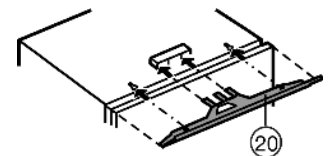

Fig. 12
- ▶ Fit the equaliser trim Fig. 12 (20) centrally onto the appliance: slide into holding fixture and engage in keyholes.